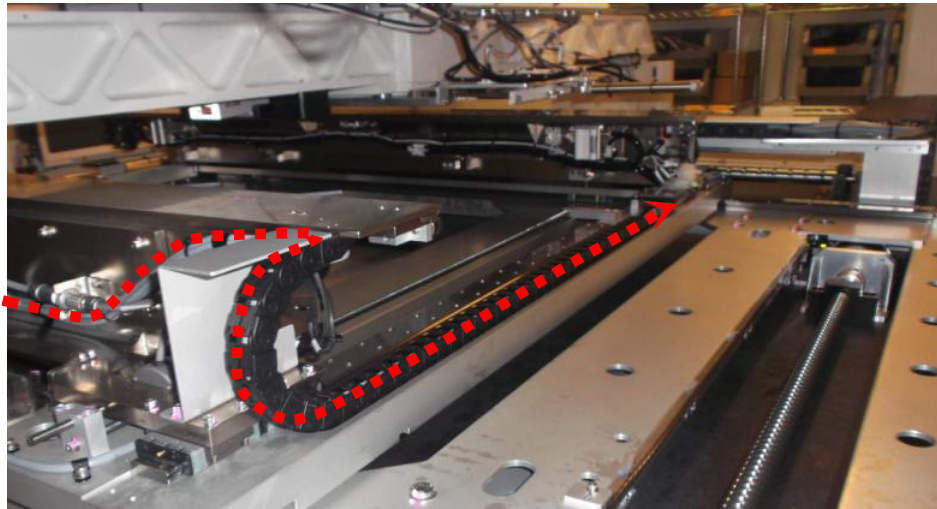

Figure 11 Stepper Motor Cable Removal (AWA E-Chain)
15. Remove 4XASC-A079 from AWA E-Chain as below Figure 11